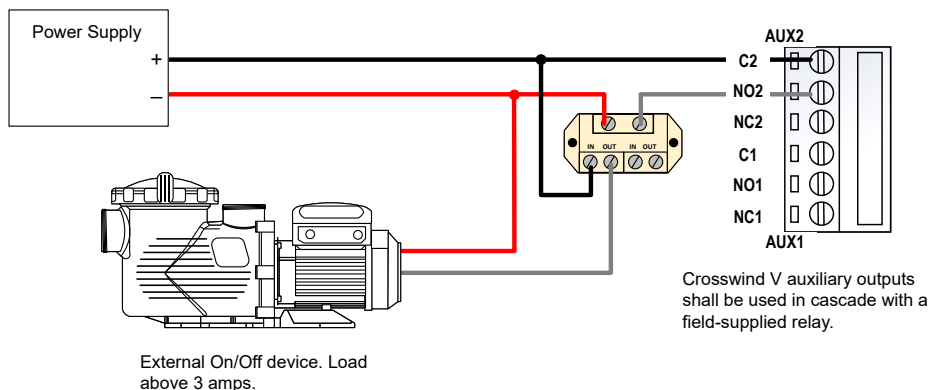

Figure 153. External Device Wiring to Auxiliary Output
- b. For applications over 3-amps, use a field-supplied relay rated to the amperage and voltage of your application, connected in cascade to the Auxiliary output of the heater. See Figure 153.